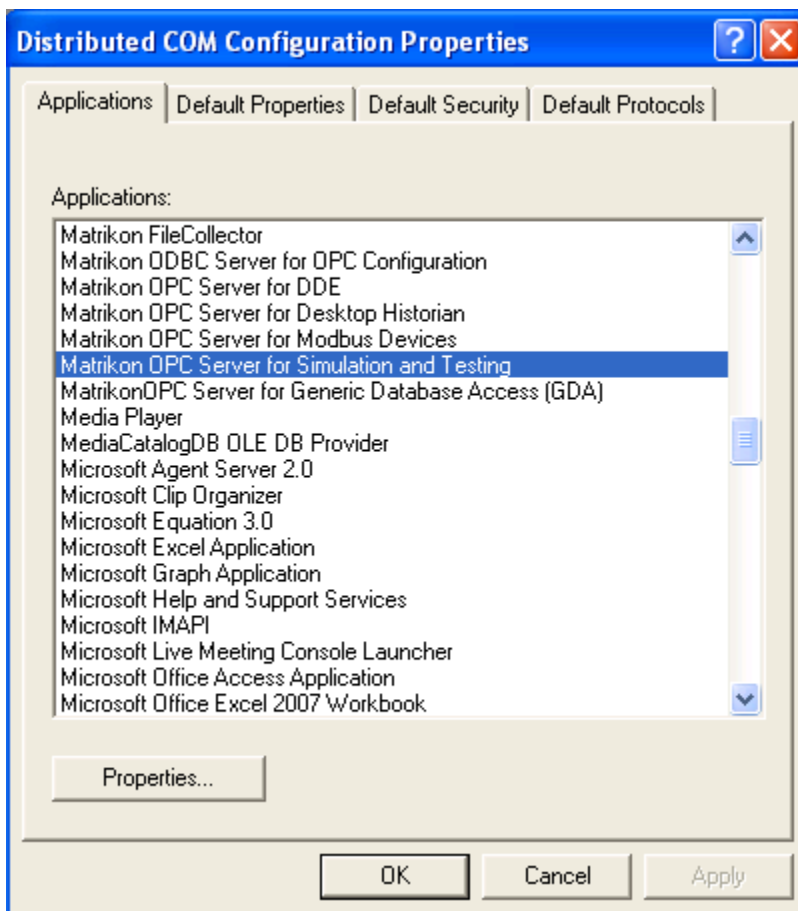

Figure 31 - Distributed COM Configuration Properties Window
3. The **Distributed COM Configuration Properties** window (Figure 31) appears.